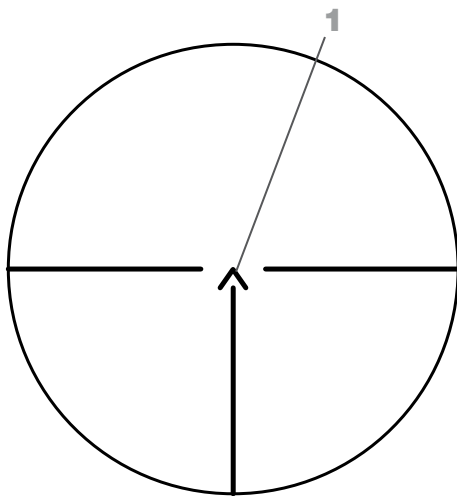

Figure 5 - Field of view
4.4 There are the aiming mark 1 (Figure 5), one vertical and two horizontal lines in the field of view of the reticle.